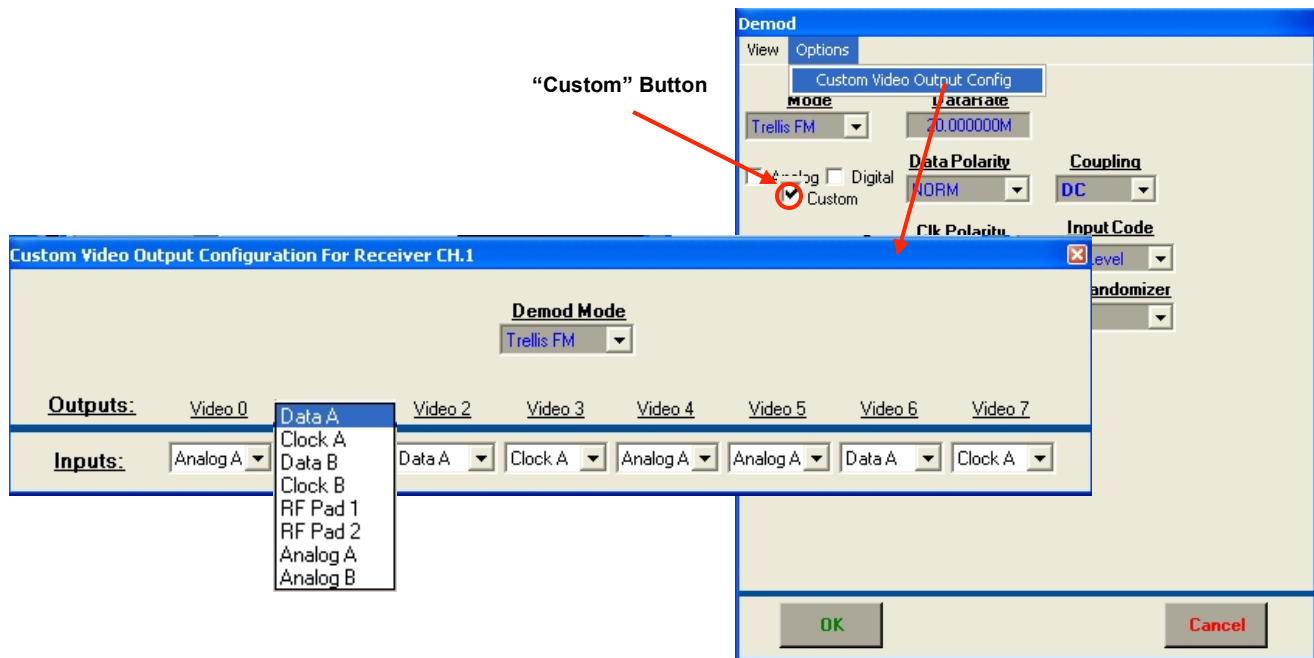

Figure 6-21
Custom – Figure 6-21 shows the “Custom” feature that allows the user to configure (customize) the rear panel BNC Video 0 through Video 3 outputs to other than the factory default settings.
Step 3: Click on one or more Video 0 thru Video 3 Outputs and select desired output from pull-down menu as shown in Figure 6-21.